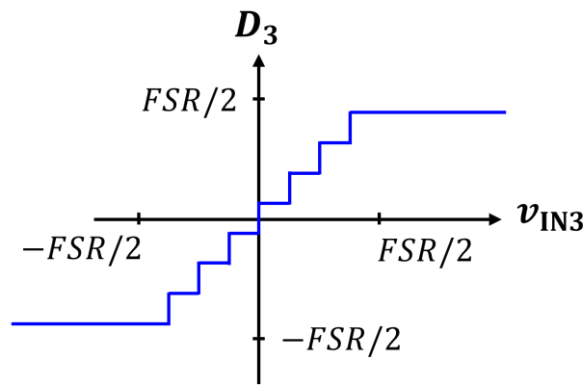

Figure 2: Transfer characteristic of the 3-bit ADC.
- i. Use your results of task I.b, task I.h as well as the transfer characteristic of the 3-bit ADC given in Figure 2 to determine D_1 , D_2 , D_3 and $D_{OUT} = D_1 + D_2/G_1 + D_3/G_1G_2$ in the analog domain for $v_{IN} = 0.126 FSR = 63/500 FSR$. Moreover, determine v_{RES1} and v_{RES2} .